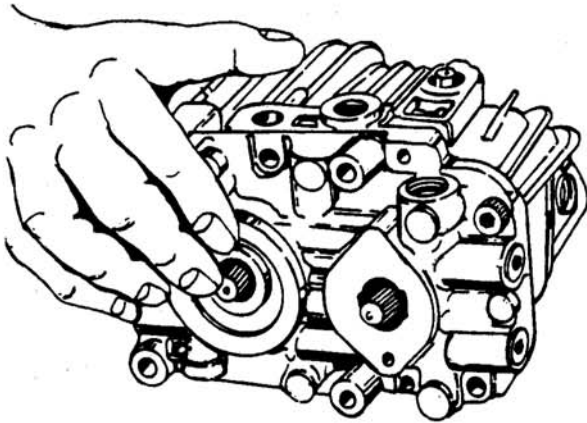

Figure 6-70. Positioning Transmission to Install Check Valve
- a. Lay the transmission on its side. See Figure 6-70.